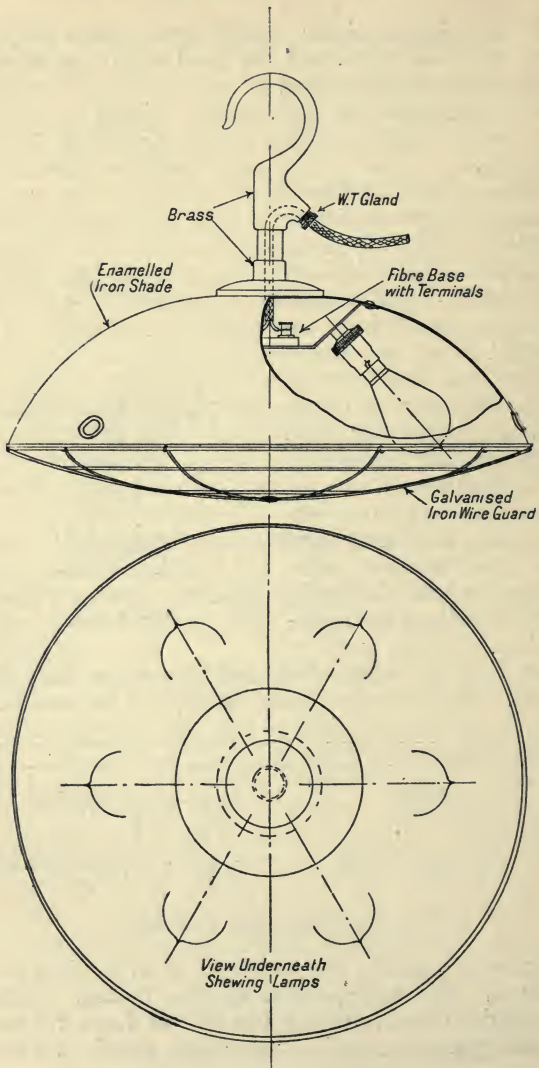

FIG. 13.—CARGO CLUSTER.
*Cargo Clusters.*—These consist of large shades or reflectors (Fig. 13) from 20 to 30 inches in diameter made of galvanized iron, blue and white enamelled iron, or brass. Inside is a ball or cone with a number of lamps radiating from it; six, eight, or ten being the usual number.